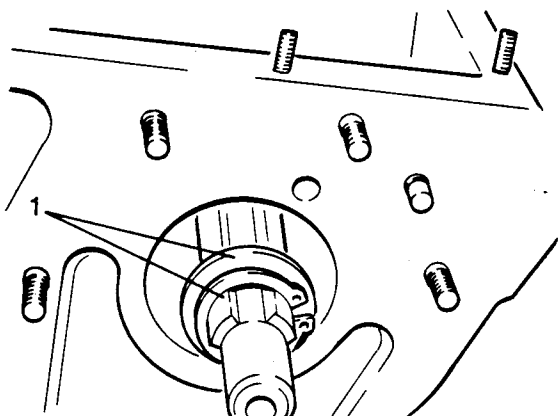

Fig H2.20
(11) Refer to Fig H2.20. Once the bearing has been removed, take off the circlip and thrust washers (1) for the output shaft gears.